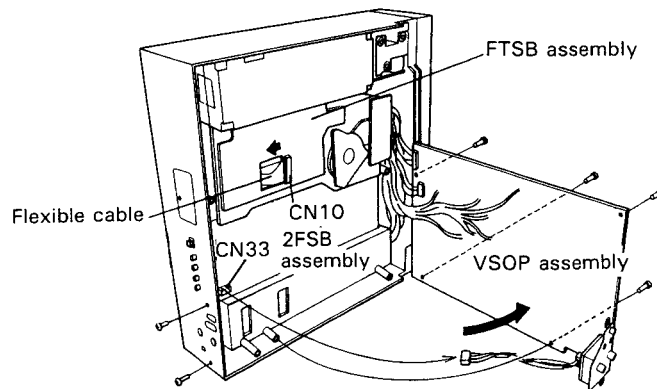

Fig.3
Stand the player on its side as shown in Fig.3. The grating can be adjusted by inserting a small screwdriver through the gap between the mechanical assembly and the 2FSB assembly. (Figs.9 and 10)
4. Stand the unit on its side with the power transformer at the bottom. Undo the four VSOP assembly screws and the two rear panel screws. Open the VSOP assembly and disconnect CN33 from the 2FSB assembly. (Fig.3)